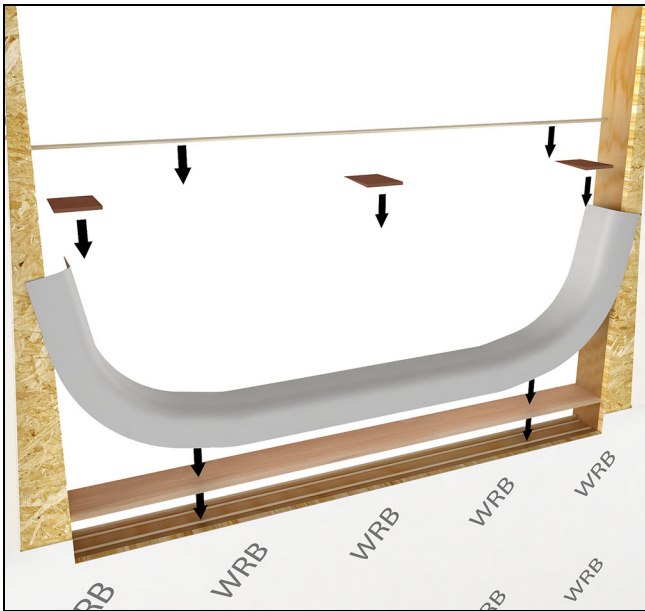

Figure 5
1. The method shown below is Method A1 using a TYPE III flash pan. For step by step instructions on how to prepare an opening using this method, refer to [www.marvin.com/f/1019562/x/f88293723e/window-rough-opening-prep-and-flashing-19913776.pdf](http://www.marvin.com/f/1019562/x/f88293723e/window-rough-opening-prep-and-flashing-19913776.pdf) for instructions titled "Window Rough Opening Prep and Flashing Method A1-Membrane Drainage System". Refer to ASTM E2112-07 for other rough opening preparations that are more appropriate for your situation. See Figure 5.